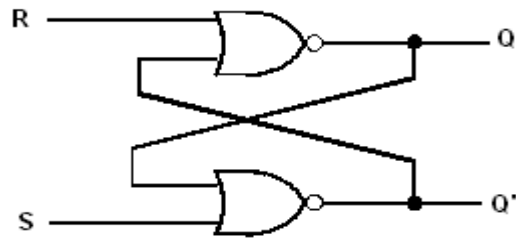

Figure 1
1. Implement the circuit in Figure 1 on the kit using IC 7402 which has four NOR gates. (Note: there is no clock pulse)